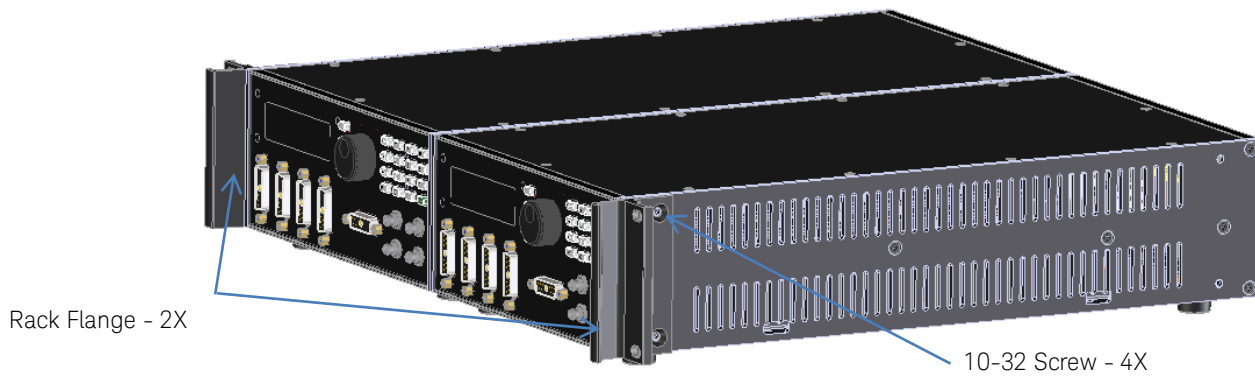

Figure 7: Attach rack flanges
5. Attach the rack flanges as shown in Figure 7.